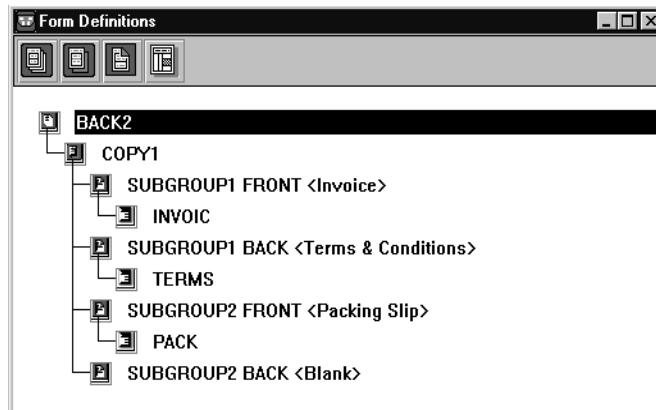

Figure 25. Form definition with constant back
7. When you are done making all these modifications, your Form Definition window should look something like Figure 25. Note the value of comments and a good naming convention.